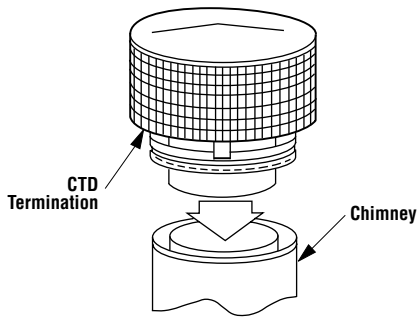

Figure 34
1. Hold the FTF8-CTD over top of last chimney section (see *Figure 34*).